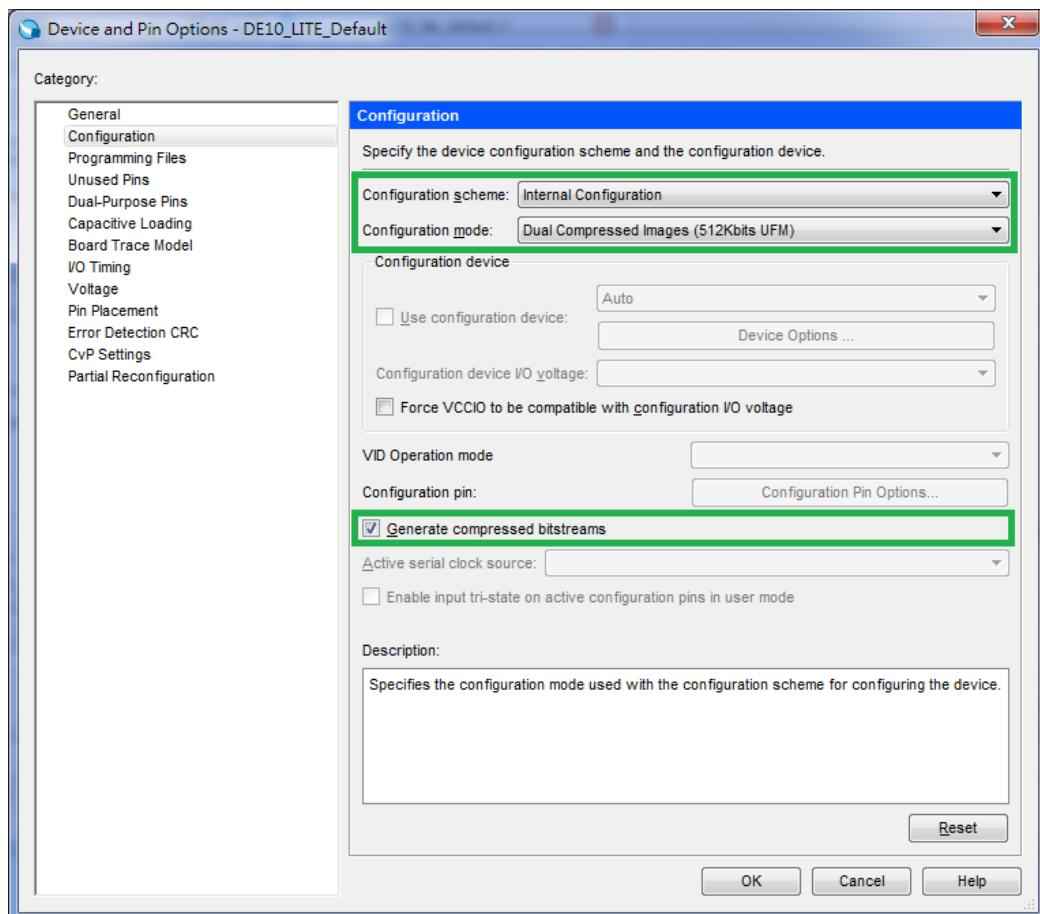

Figure 6-12 Set Dual Configuration Mode
- Click **Device and Pin Opinions** to open the Device and Pin Opinions windows, and in the **Configuration** tab, Set the **Configuration Scheme** to **Internal Configuration** and the **Configuration Mode** to **Dual Compressed Images**. Check the Option of **Generate compressed bitstreams**. shown in **Figure 6-12**.